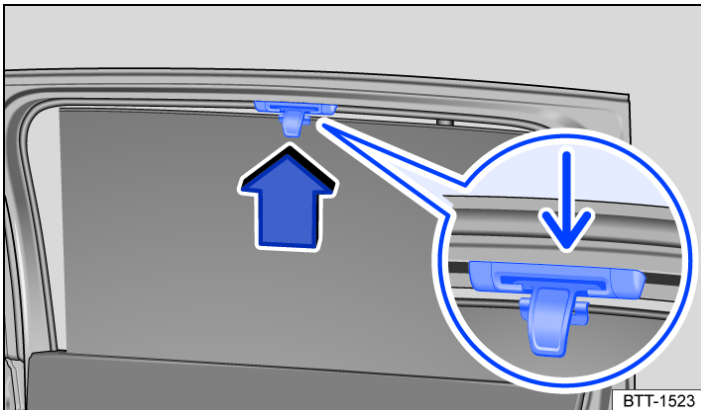

Fig. 1 In the rear right-hand window: sun blind.
- Use the protruding handle to fully pull up the sun blind in the direction of the arrow → *Fig. 1* (close-up).
- Hook both rings on the bar into the corresponding brackets. Check to make sure that the extended sun blind is secured firmly in the bracket → *Fig. 1* (small arrow).